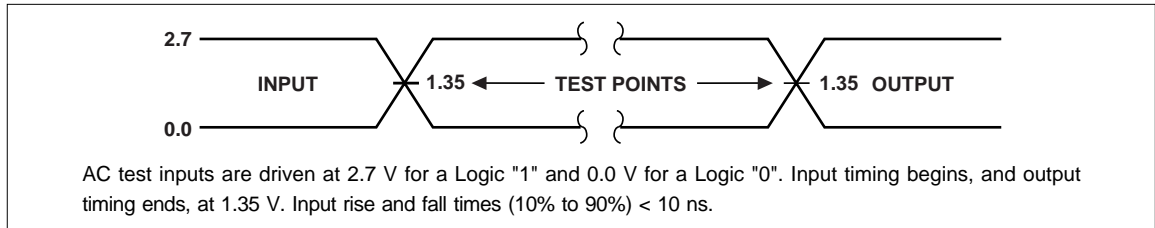
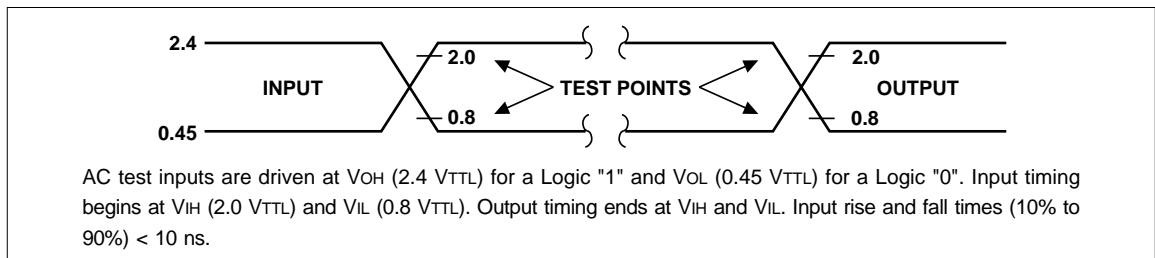

Fig. 7 Transient Input/Output Reference Waveform for V_{CC} = 2.7 to 3.6 V
Fig. 9 Transient Input/Output Reference Waveform for V_{CC} = 5.0±0.5 V (Standard Testing Configuration)
1. See AC Input/Output Reference Waveform (Fig. 7 through Fig. 9) for maximum allowable input slew rate.